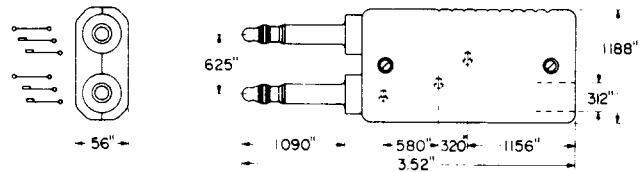

Fig. 4—428A Plug
2.04 428A: The 428A (Fig. 4) is a twin, 3-conductor plug with a shell of black insulating material. The 428A plug is designed to be used with the 246- or similar-type jacks and is used in testing register sender and sender link circuits.